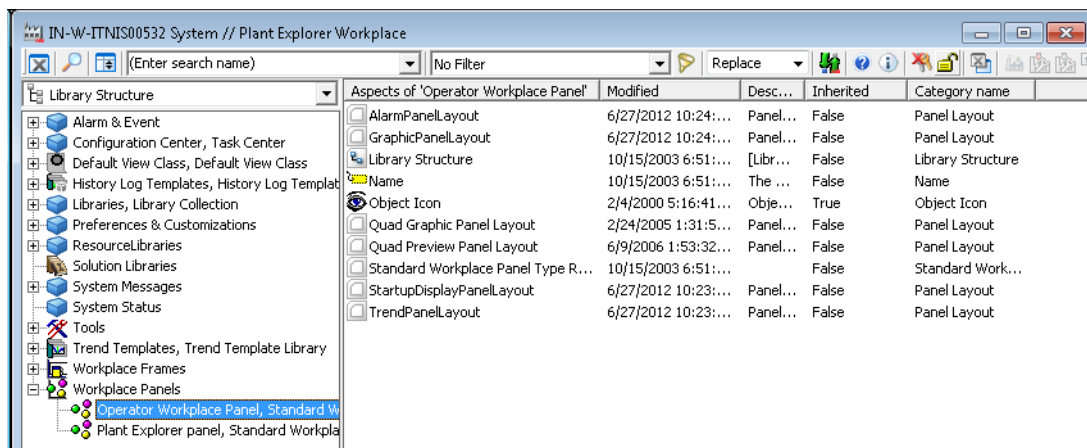

Figure 47. Workplace Panels in the Library Structure - Large Workplace
4. The template provides predefined panels for the different large workplaces. These are located in the Library Structure below the Workplace Panels object. See Figure 47.